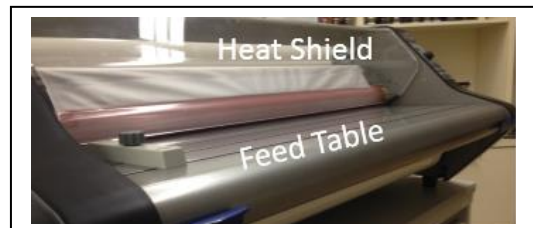

Figure 4
- HEAT SHIELD:** (figure 4) Prevents inadvertent contact with the heat rollers. The HEAT SHIELD must be lowered for the RUN operation to work.
- FEED TABLE:** (figure 4) The Feed Table is used to position items for lamination. Feed table must be closed and latched for laminator to operate.